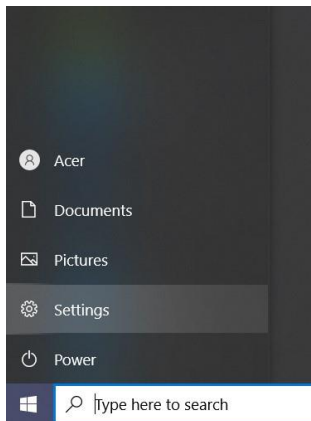

Fig. 8
2. From the Windows menu, select Settings (Fig.8).